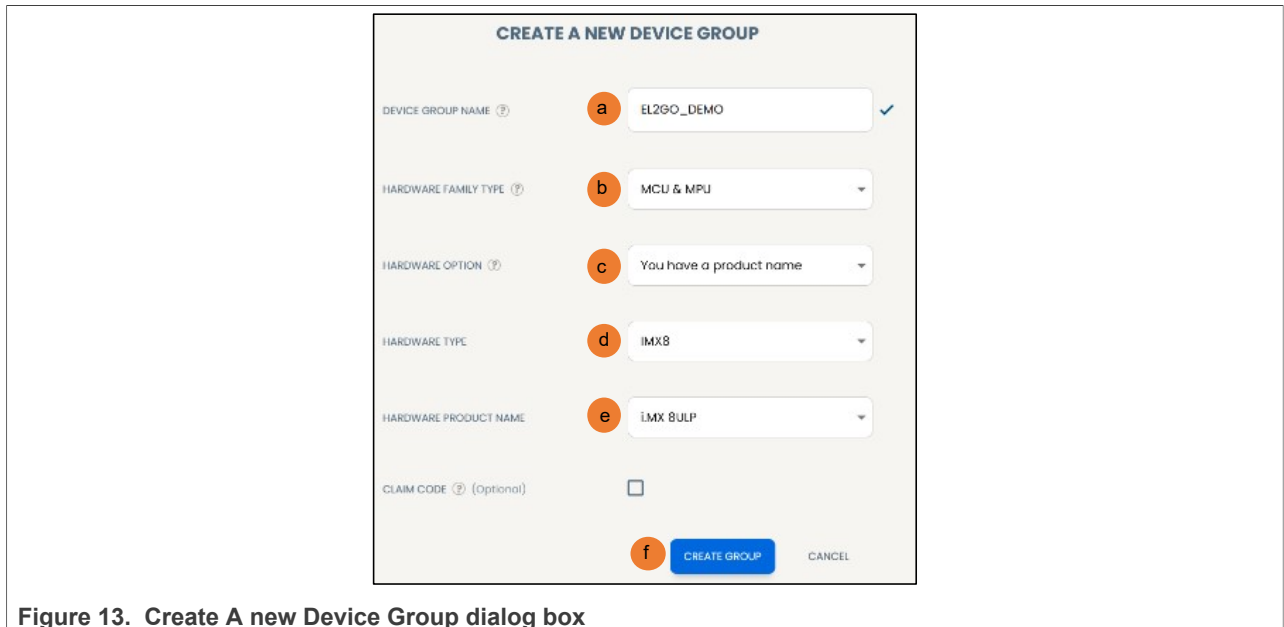

Figure 13. Create A new Device Group dialog box
2. A dialog box pops up, as shown in Figure 13.
For the detailed information to input, see Figure 13: